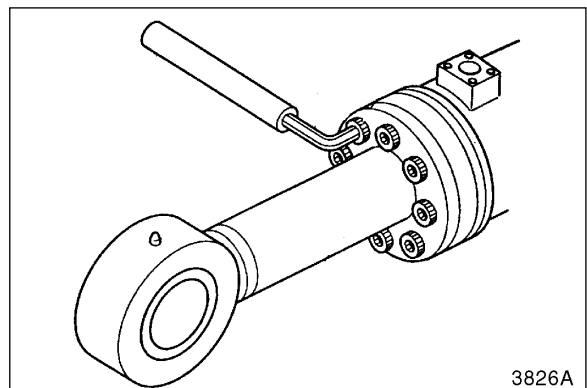

Figure 9
3. Set cylinder rod assembly in a repair fixture and secure rod in place. See Figure 9. Use a power wrench and socket to remove nut that holds piston on rod.